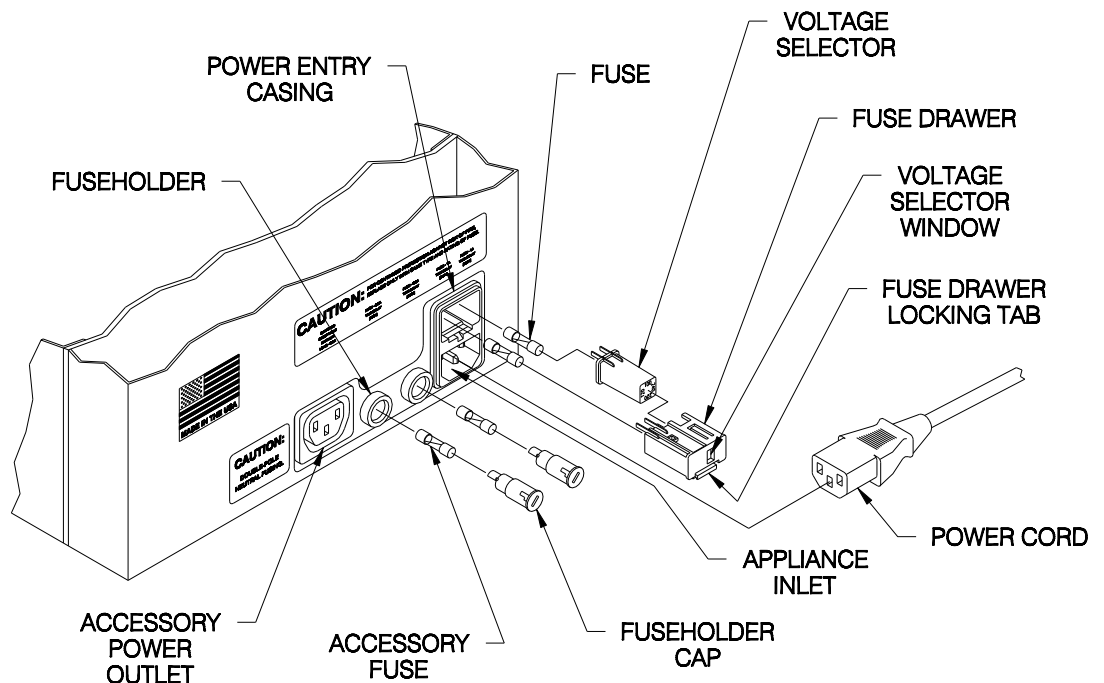

Figure 3.1 - FD 260 Power Connection
Read the current voltage setting through the **VOLTAGE SELECTOR WINDOW** on the non-operator side of the FD 260. (Refer to **Figure 3.1.**) Use the following instructions to change the voltage setting:
The FUSE DRAWER located on the non-operator side contains two LINE FUSES. (Refer to **Figure 3.1.**) The neutral and hot lines of power are fused. Both LINE FUSES must be intact for the FD 260 to operate properly.
Two FUSEHOLDERS are located on the non-operator side between the APPLIANCE INLET and the ACCESSORY POWER OUTLET. (Refer to **Figure 3.1.**) The FUSEHOLDERS hold two ACCESSORY FUSES which protect the ACCESSORY POWER OUTLET. As with the LINE FUSES mentioned previously, both the neutral and hot lines are fused. Both ACCESSORY FUSES must be intact for the FD 260 to properly supply power to in-line equipment.
The ACCESSORY POWER OUTLET is located next to the FUSEHOLDER on the non-operator side. (Refer to **Figure 3.1.**) This outlet supplies power to equipment running in-line with the FD 260.
1. Plug the POWER CORD into the APPLIANCE INLET on the non-operator side. (Refer to **Figure 3.1.**)